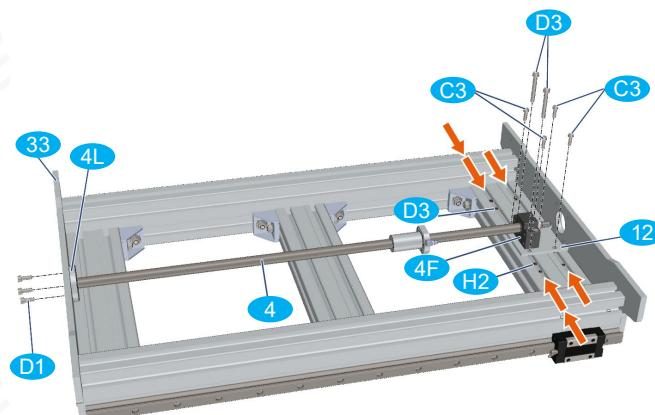

Fig. 14: Assembly of the X drive
- Place the pre-assembled X drive 4 in the base frame as shown in Figure 14.